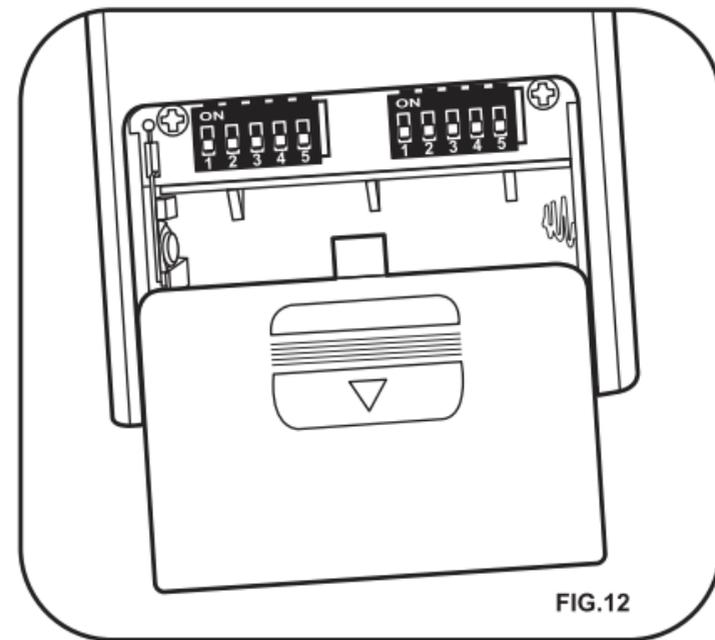

FIG.12
1. Select desired frequency from the back of transmitter. (FIG.12)